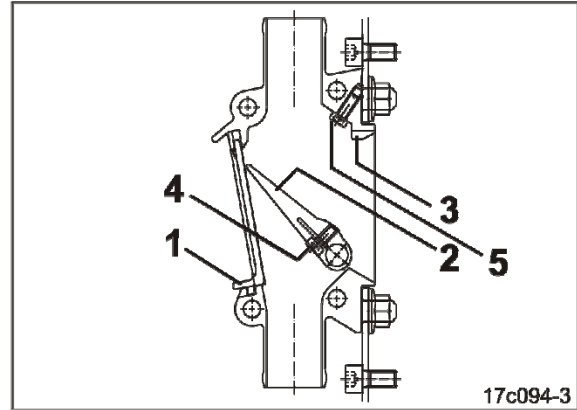

Fig. 240
2. Push up the assembly window (Fig. 240/1) and take out of the flap box from the front.
3. Press the flap (Fig. 240/2) against the stop (Fig. 240/3) and screw to the shaft. Do not tighten the hexagon socket head screw (Fig. 240/4) too tightly in order not to deform the flap.
4. Tighten the locking screw (Fig. 240/5) tension-free so that the flap can pass the screw head without obstruction.